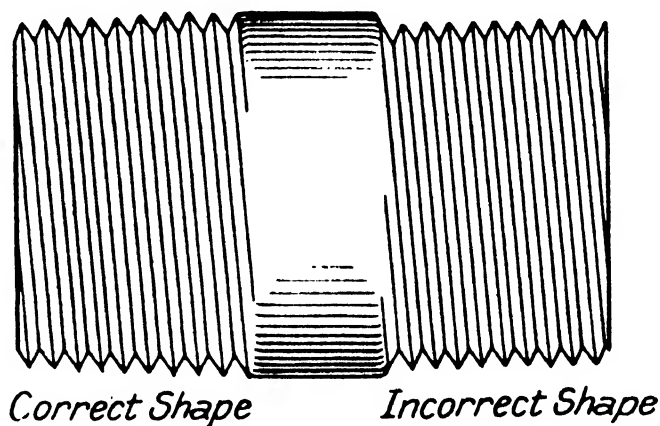

FIG. 101.
**The Pipe-thread.**—The inexperienced engineer should study the shape of the end of a pipe which has been threaded by the makers. He will find that there is a decided taper the whole length of the thread to where it runs out to nothing, and such a thread means a good joint. In Fig. 101 the sketch illustrates two threads, and both when cut may be neat in appearance, but one will